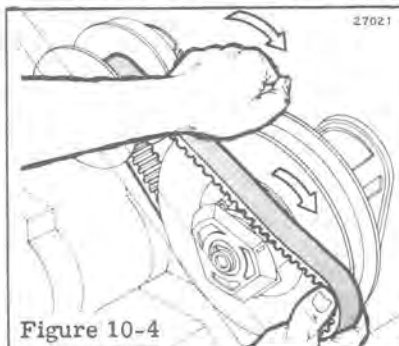

Figure 10-4
- Ride belt off sheave as sheave is twisted to right and closed, Figure 10-4.